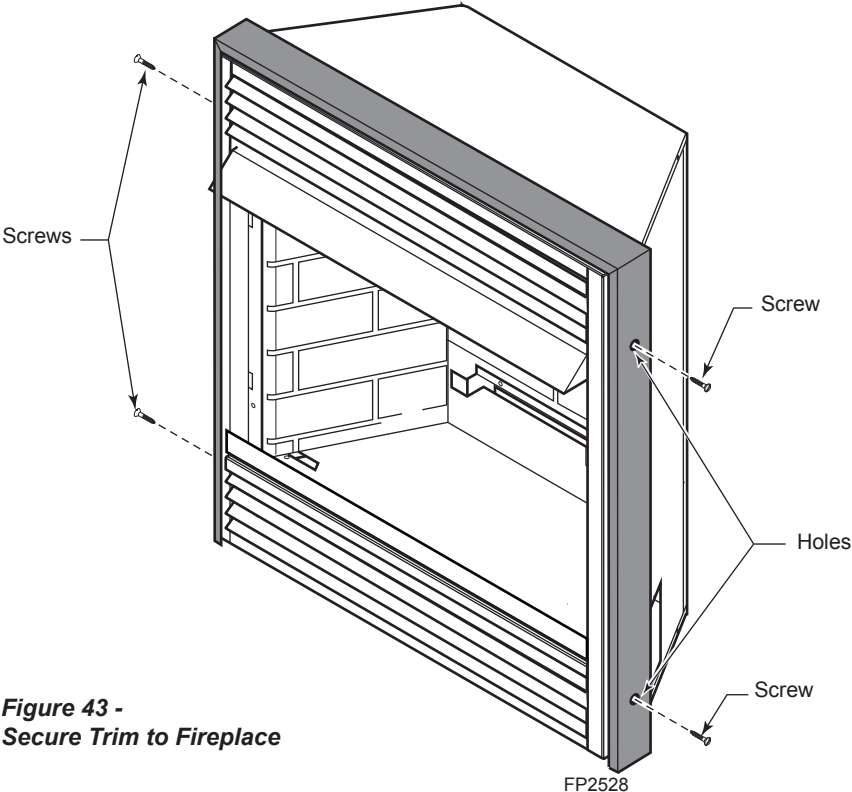

Figure 43 -
7. Align holes in assembled trim with holes in side of fireplace. Using a Phillips screwdriver, attach trim with four (4) screws provided — two for each side of fireplace. Tighten snugly. *Figure 43*